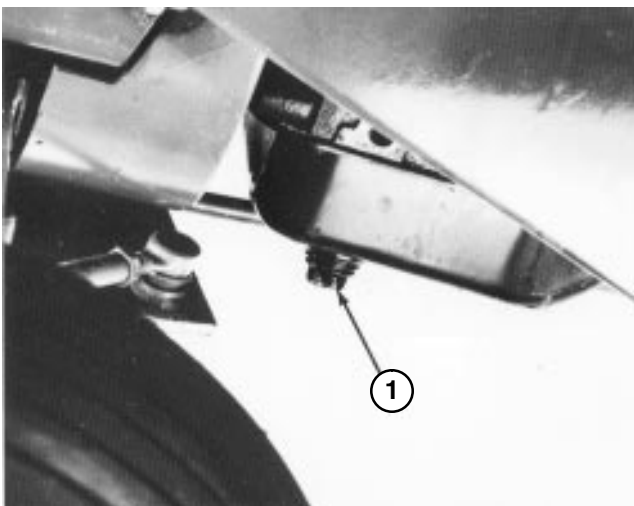

Figure 48
2. Disengage hood latch and open the hood. Set drain pan under the housing and in line with drain plug (Fig. 48).
3. Clean area around drain plug (Fig. 48).